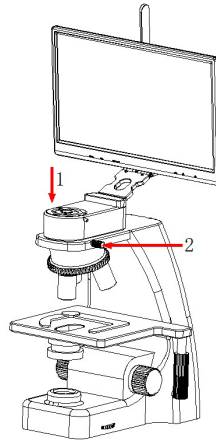

Figure 2
- 1) Place the smart all-in-one camera to the end of the microscope objective, as shown in figure 2.